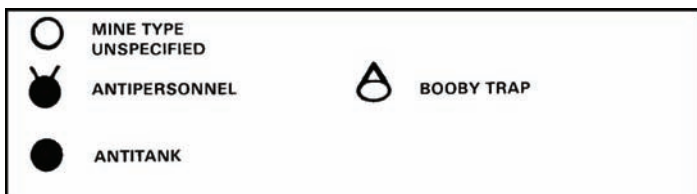

Figure 071-329-1019-13. Mine symbols
m. Indirect fire symbols (figure 071-329-1019-14).